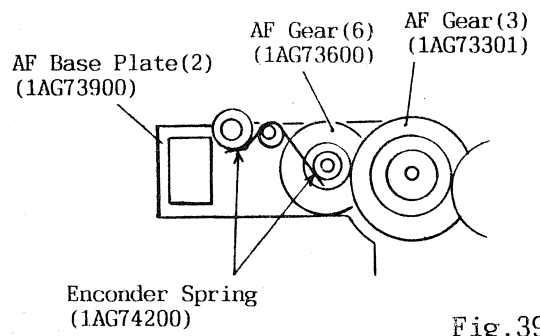

Fig. 39
- 6) Install the AF Coupler with the AF Gear (5) on the AF Base Plate (2).
- 7) Install the AF Gear (4) (1AG73401) on the AF Base Plate (2).
- 8) Set the Encoder Spring (1AG74200) on the AF Base Plate (2) as shown in Fig.39.